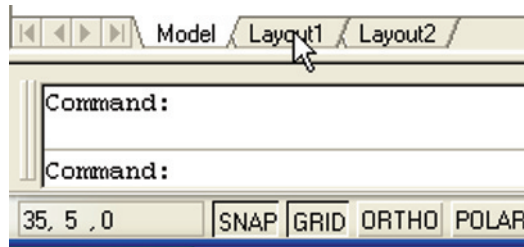

Fig. 4.23 The **Layout1** tab
2. Click the **Layout1** tab (Fig. 4.23). The screen changes to a **Paper Space** setting.